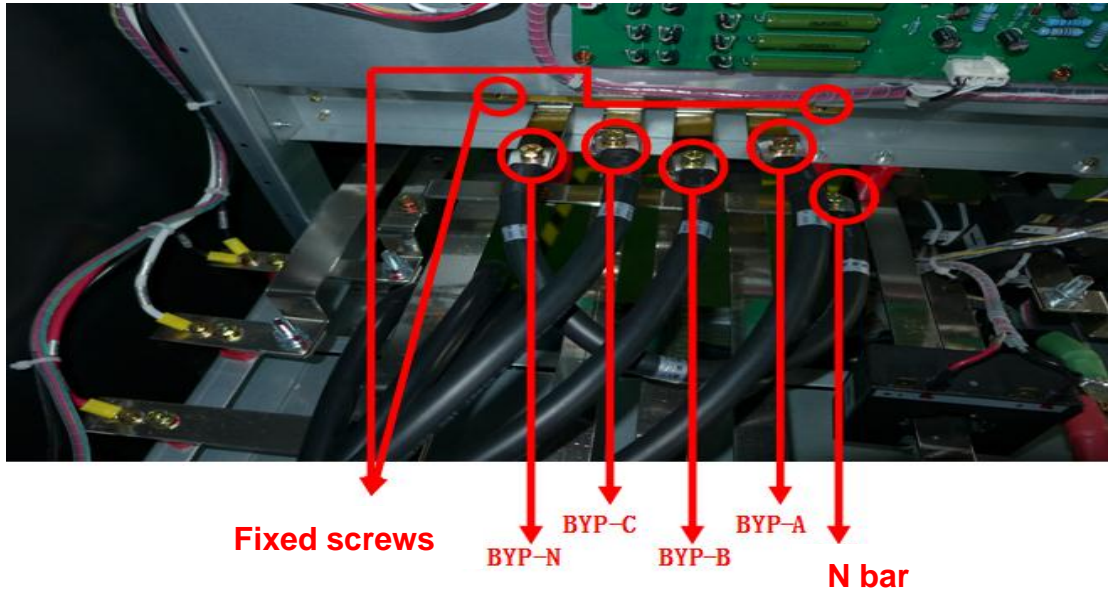

Figure 5 N cable connection
- Connect bypass input N (BYP N) cable to cabinet N (N bar) copper bar, as is shown in figure 5.